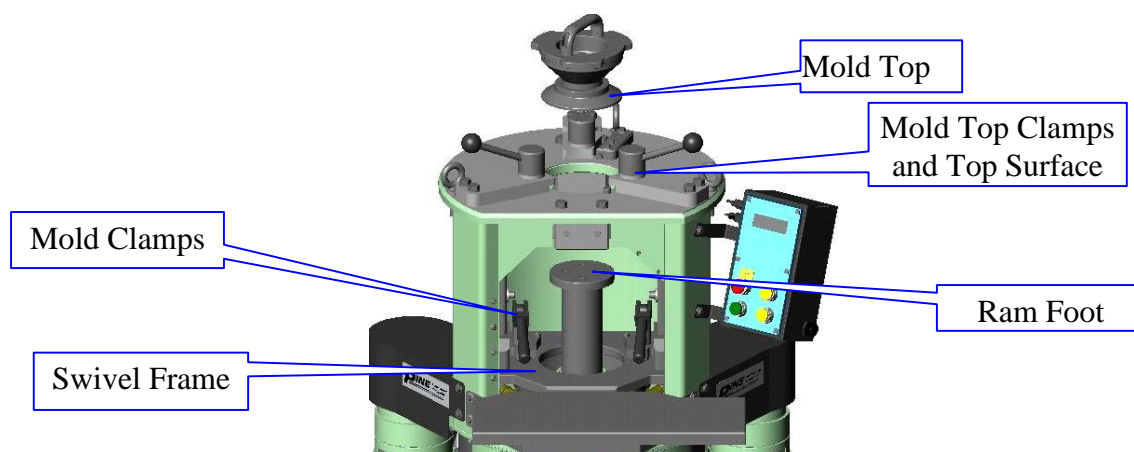

Figure 6.1: Cleaning Diagram
- Be sure the correct mold top (100mm or 4 Inch) is in position and locked in place with the top clamps (Figure 5.1). Make sure the 100mm ram foot is installed (Figure 6.1). The 100mm ram foot is used for both the 100mm and 4 inch specimen sizes.